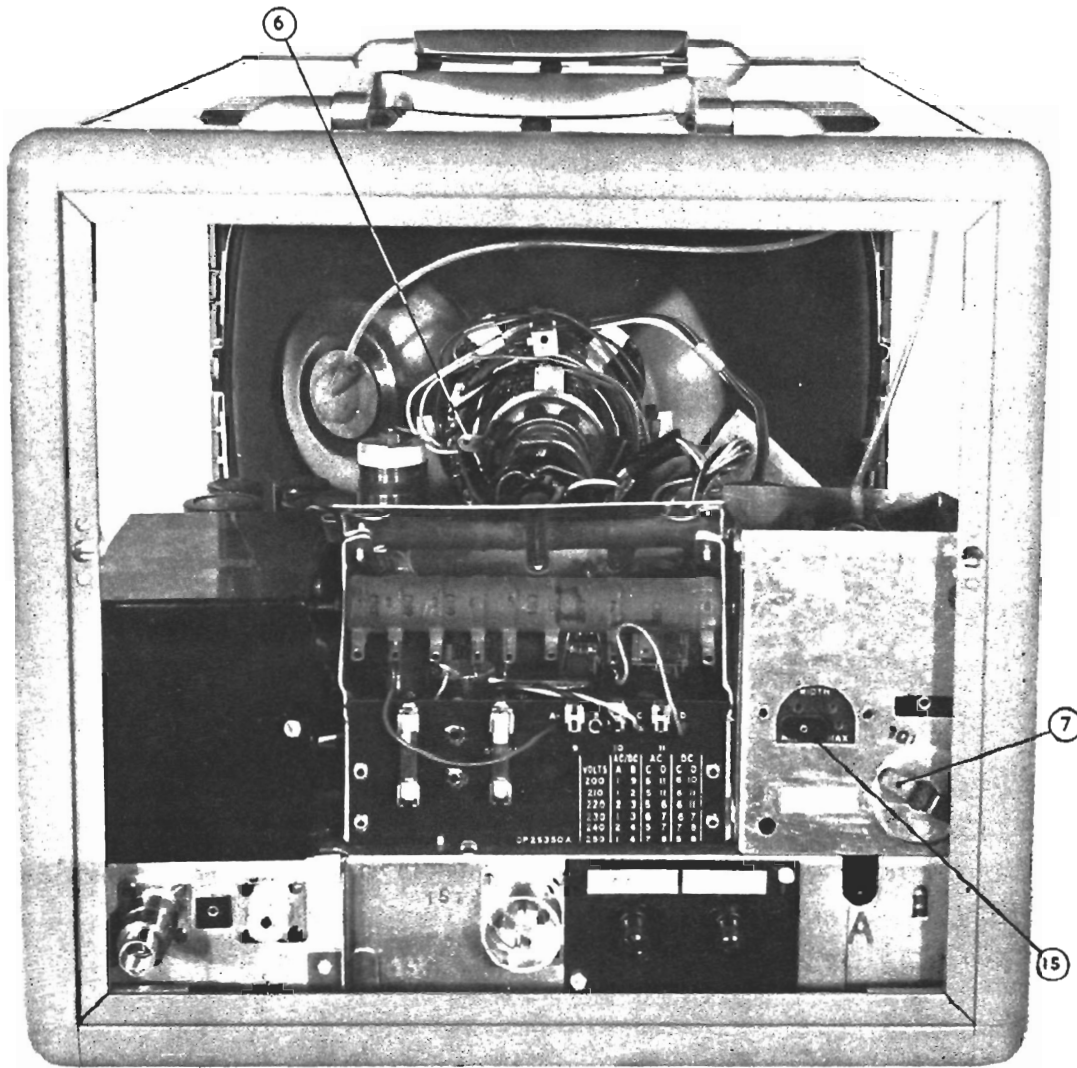
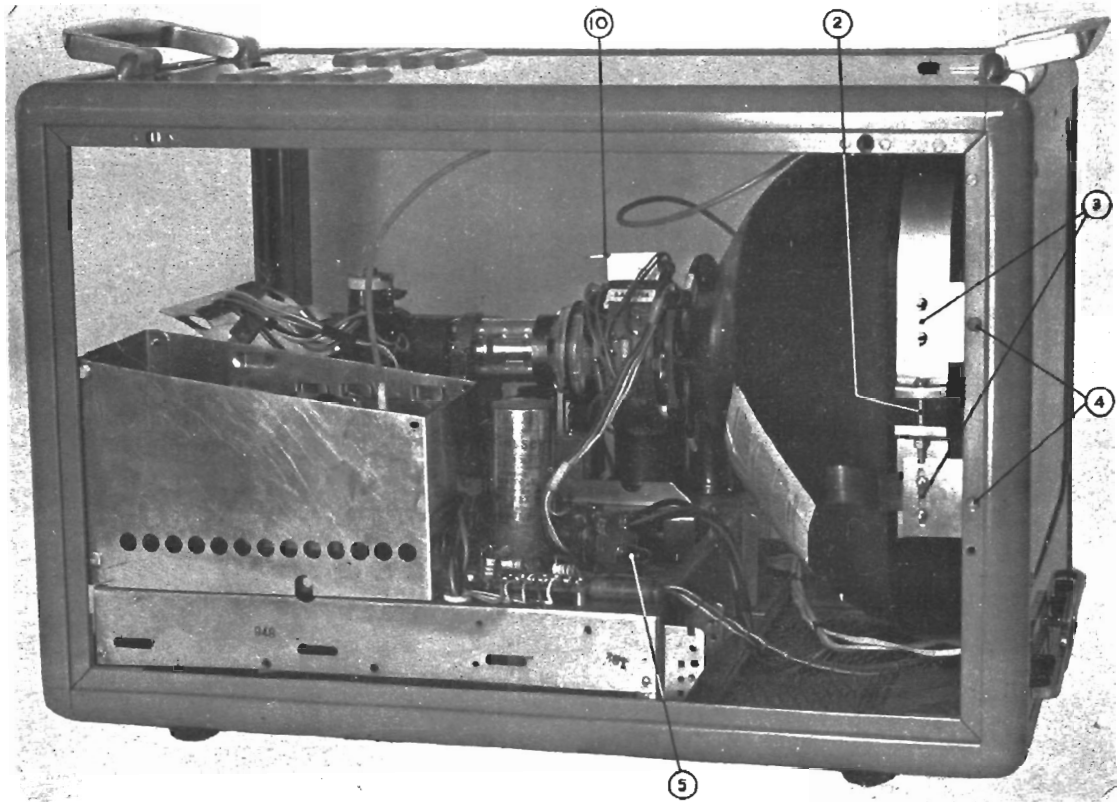
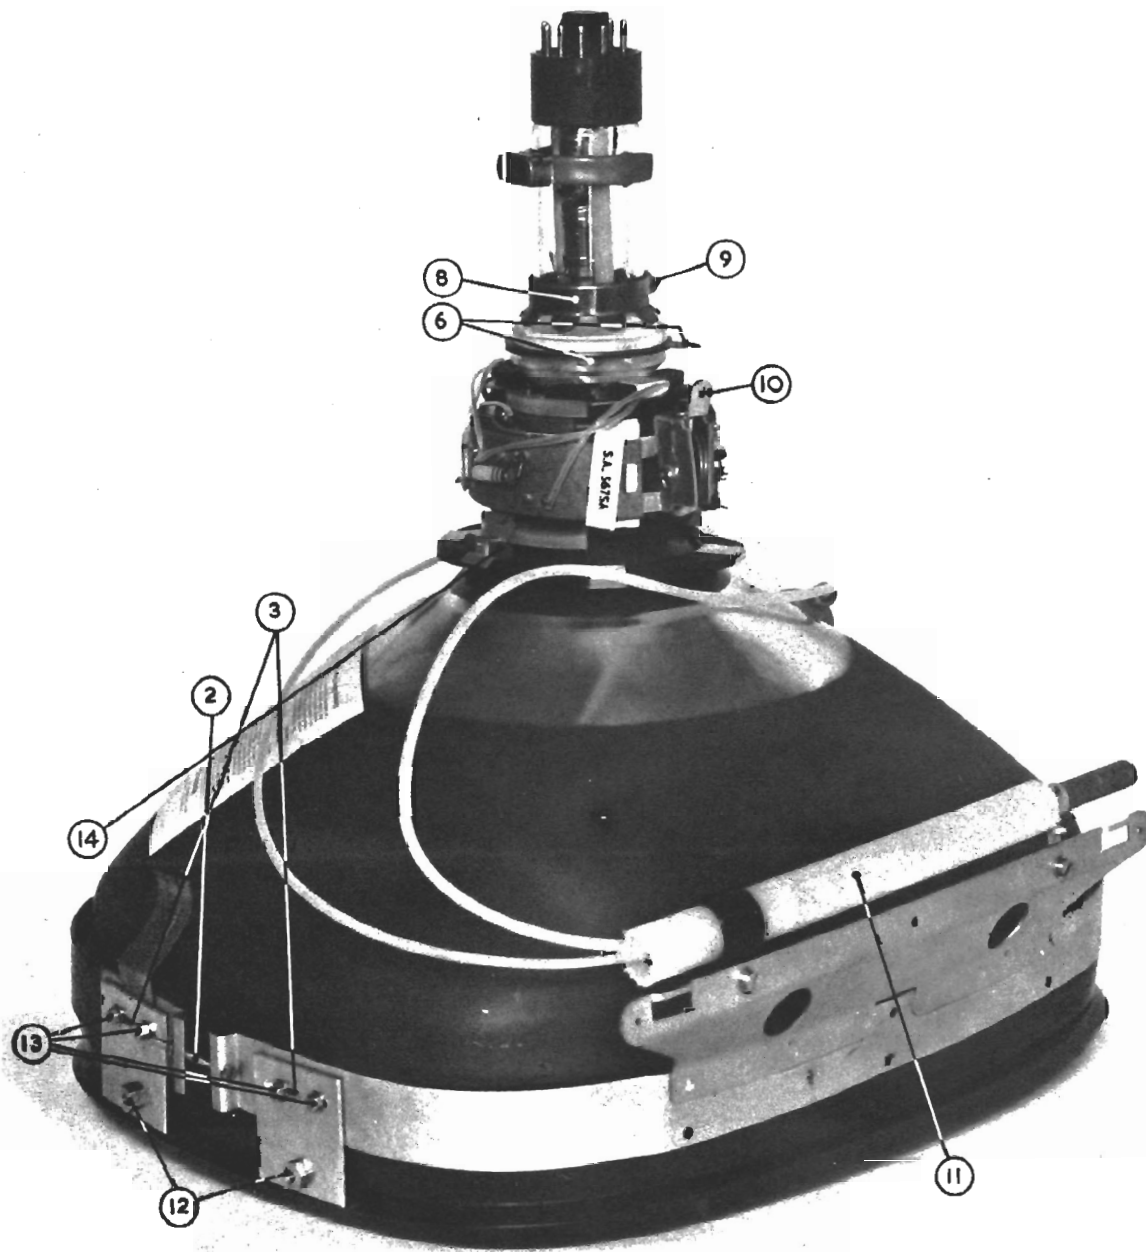

Fig. 1.2. 14-inch Monitor: Rear View with Rear Panel Removed
Fig. 1.3. 14-inch Monitor: Side View with Panel Removed
Fig. 1.4. 14-inch Monitor: C.R.T. Assembly Ready for Insertion into Cabinet
7. Release the complete tube, mask, and scanning yoke assembly by removing the two bolts shown at 4 in Fig. 1.3 and the two bolts in the corresponding positions on the other side of the cabinet. These bolts engage with hank bushes (12 in Fig. 1.4) in the clamping band surrounding the tube and mask.
10. Lift the complete tube assembly through the open top of the cabinet. The e.h.t. Metrosil and its polythene-tube container (11 in Fig. 1.4) can remain attached to the tube assembly during this operation.
11. Loosen the tightening bolts (2 in Fig. 1.4) on each side of the clamp.
Removal of Scanning Yoke Assembly (Fig. 1.4)
3. Fit the clamp band around the mask with the Metrosil uppermost, and screw up the tightening bolts (2 in Fig. 1.4).
4. Slip the scanning yoke over the neck of the tube with the projecting windings nearest the bulb, and the aluminium lug (10 in Fig. 1.4) uppermost. In doing this, do not disturb the setting of the barrel-distortion correcting magnets 14.
6. Slip the retaining ring (8 in Fig. 1.4) over the neck of the tube and the plastic strip, and locate the small projection on the retaining ring in the slot on the scanning yoke.
9. Loosen (but do not remove) the four 6 B.A. nuts (13 in Fig. 1.4) and the corresponding four nuts on the other side of the clamp.
13. With the tube held in approximately its correct position, move the hank bushes (12 in Fig. 1.4) into line with the fixing holes in the cabinet, using the play provided by the slots (3 in Fig. 1.4).
14. Screw home the bolts (4 in Fig. 1.3) into the hank bushes.
1. Adjust picture width by moving the sliding core of L53, shown at 5 in Fig. 1.3. The coarse control (15 in Fig. 1.2) should be used to compensate for valve ageing in the line output circuit.
2. Adjust line linearity by rotating the lugs (7 in Fig. 1.2) at the rear of the e.h.t. compartment.
5. Adjust picture centring by the lugs (6 in Fig. 1.4) on the scanning yoke.